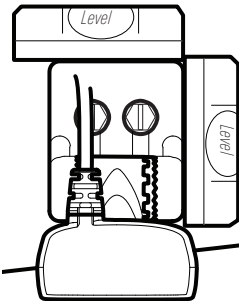

Figure 24
- Continue to adjust until the bracket is also level from port to starboard (horizontally level as you look at the transducer from behind the boat (Figure 24).